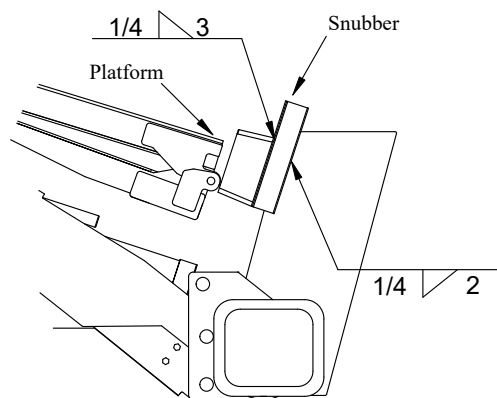

Figure 15: Snubber Kit - Finish Weld Location.
4. **Weld** the snubber kit in position so that the platform will compress the rubber pads 1/4" when the platform is stowed (Figure 15).